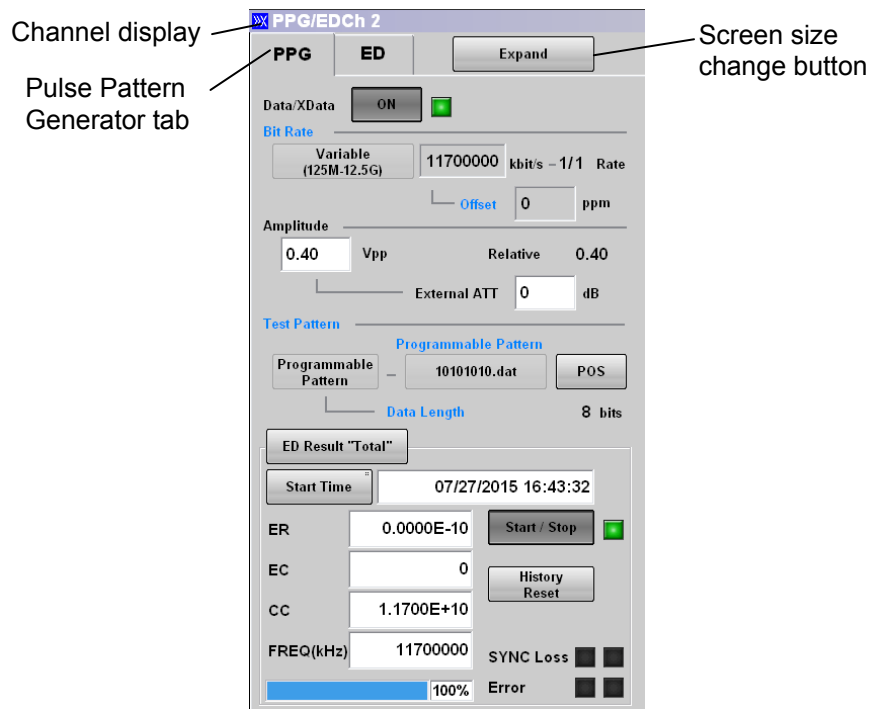

Figure 5.1-1 PPG Setting Panel
2. Touch [PPG], and then Figure 5.1-1 is displayed.
4. Touch [Expand], and then the screen is changed to Figure 5.1-1.
XData in Figure 5.1-1 indicates the $\overline{\text{Data}}$ Out connector on the front panel.